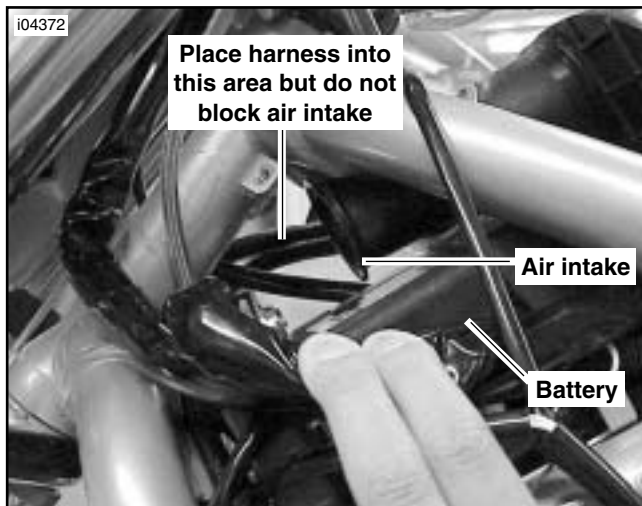

Figure 3. Install Fog Lamp Wiring Harness (VRSC Models)
4. **VRSC models:** See Figure 3. Place the wire harness from the kit into the area in front of the battery. Do not block the air intake opening.